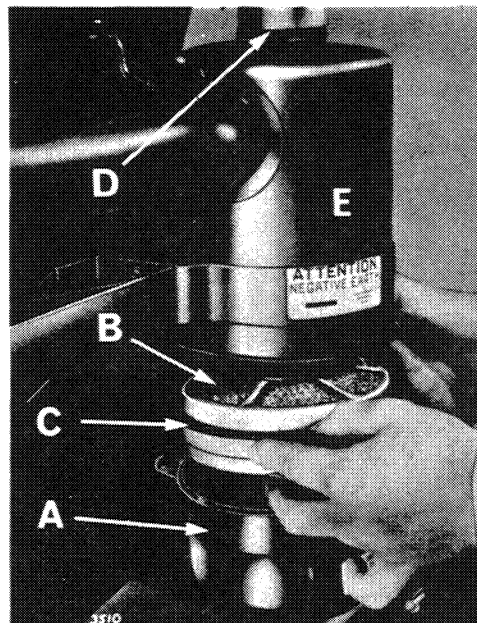

Figure 2. AIR CLEANER
**Air Cleaner 'O' Rings:** When assembling the air cleaner care should be taken to ensure that the 'O' rings between the cleaner body, lower element and oil bowl are correctly fitted to ensure an air-tight seal. The fit of these 'O' rings is particularly important, as the upper ring may be easily displaced when the oil bowl and lower element are being fitted. The 'O' ring should not be twisted and should fit securely on the small notched register on the lower edge of the air cleaner body. If the 'O' rings are damaged during assembly new rings must be fitted. (Fig. 2.)